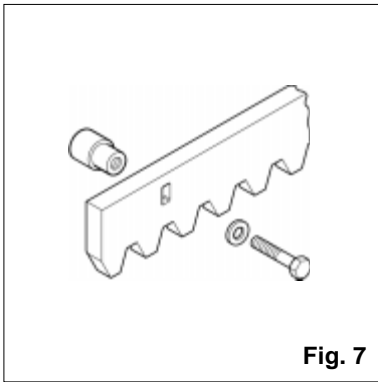

Fig. 7
- 1) Fit the rack (supplied on request) by means of the TE 8 x 25 screws and the spacers provided (for welding), as shown in figure 7.